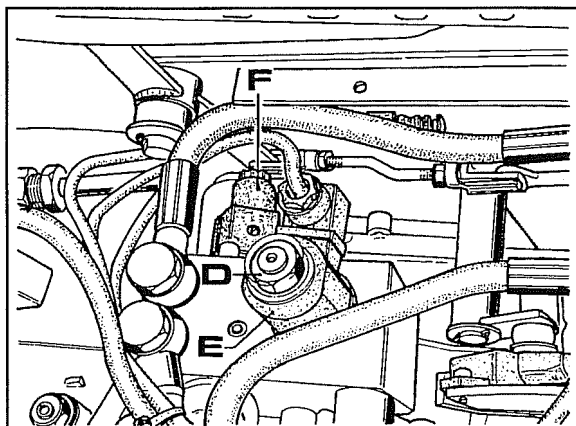
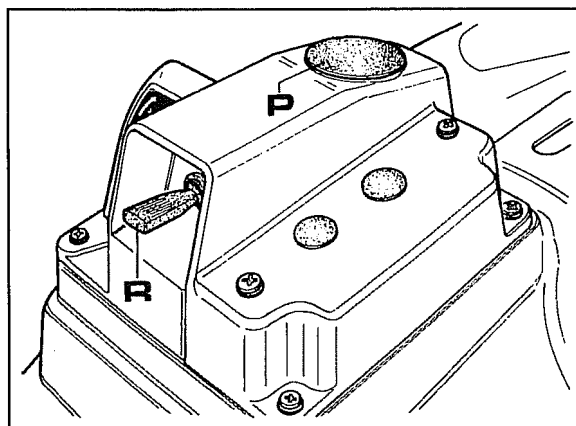
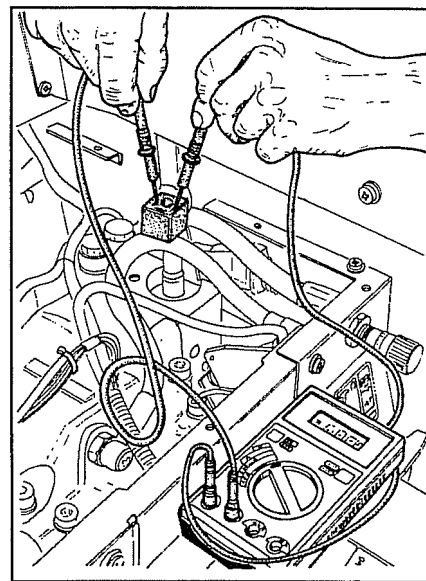

Fig. 4
Fig. 6
Fig. 5
1. After removing the seat, take off the solenoid cover, remove nut **D** Fig.4, and remove coil **E** from the solenoid.
2. To check if there is power supply, test the voltage on the wiring plug to the solenoid (Fig.5). Don't forget that before doing this, the lift must be lowered all the way, turn the ignition key on, press the safety button **P** Fig.6 and lift up hydraulic lift control lever **R** Fig.6.
To test voltage at the wiring plug to solenoid **F** Fig.4, just disconnect the wire from the solenoid. Don't forget to prepare the tractor first by moving lift control lever **R** Fig.6 down and then press the safety button **P** Fig.6.
1. Remove the cover, unscrew nut **D** Fig.4 and remove coil **E** from the solenoid.